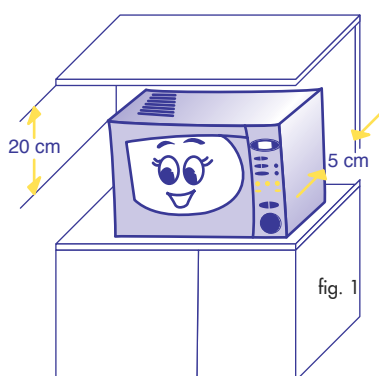

fig. 1
- 5) After having placed the oven on its work level, make sure that there is still a free space of at least 5 cm. between the oven's surfaces and the side as well as back walls, and a free space of at least 20 cm. above the oven (see Fig. 1).